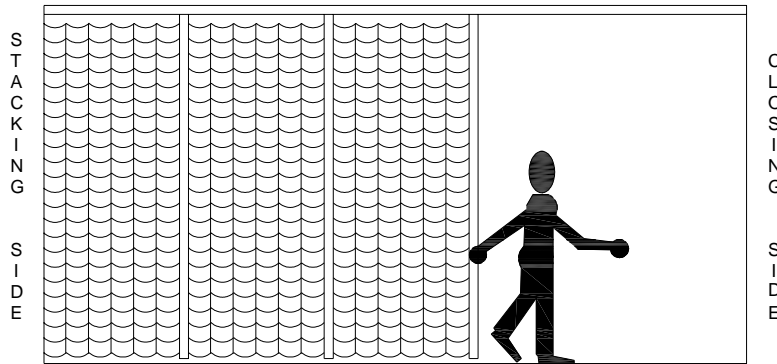

Fig. 1-4
1. Pull the leading vertical channel across the opening until the entire closure has been removed from its storage area. See Fig. 1-4.